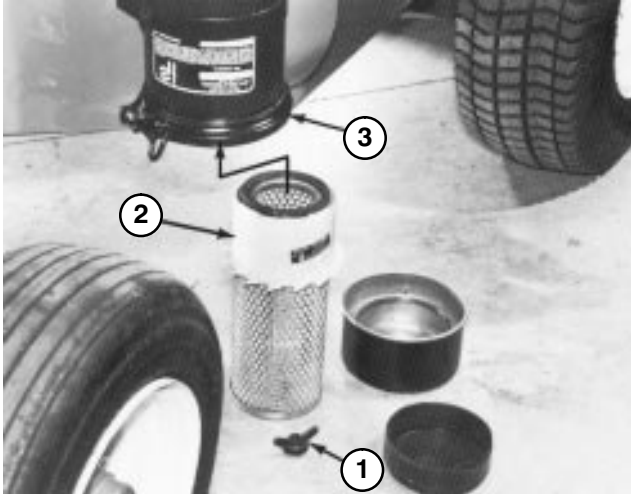

Figure 46
2. Remove wing nut w/gasket and slide filter element out of air cleaner body (Fig. 46).